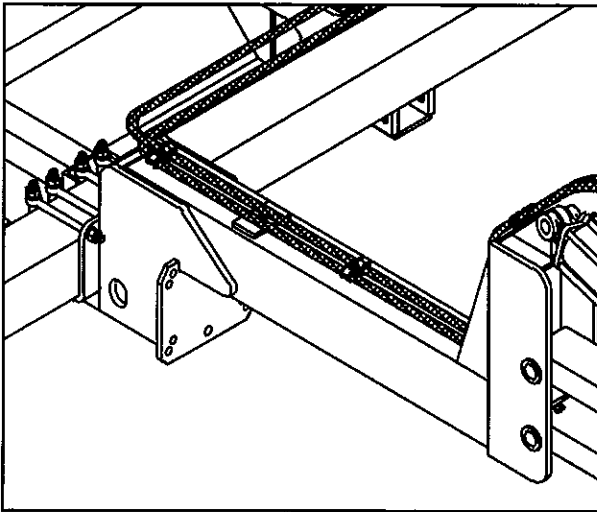

Figure 6 Lift Assist Mounting.
- Attach cylinder stop (P/N 384600) to ram of lift-assist cylinder. **Figure 6**